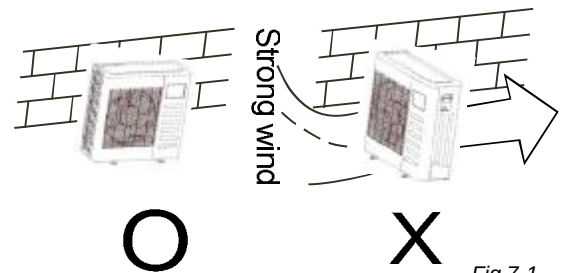

Fig.7-1
- In the case that the installation place is exposed to strong wind such as a seaside, make sure the fan operating properly by putting the unit lengthwise along the wall or using a dust or shield.(Refer to Fig.7-1)